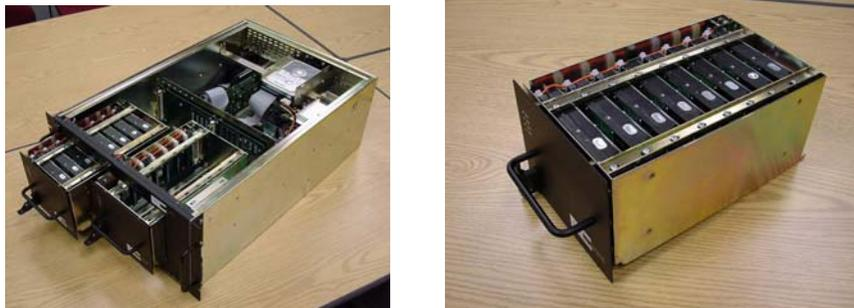

Figure 1: Mark 5B chassis and '8-pack' disk module
- Data rate capability to 1024 Mbps onto a single '8-pack' disk module (Figure 1)
- System is housed in a single 5U chassis (Figure 1) which holds two '8-pack' modules